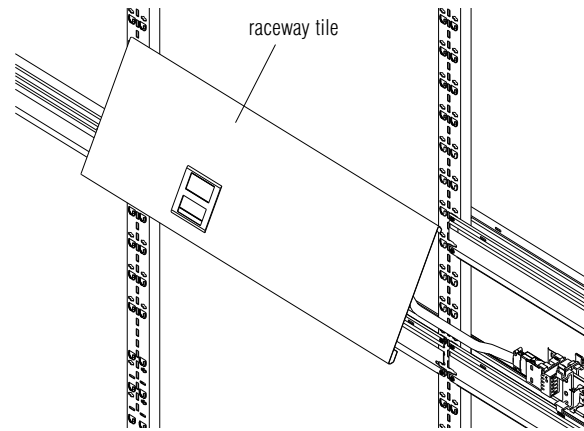

Figure 70
2. With the tile hooks already in place on the frame (See **Installing Tile Hooks on page 13**) and the wire trough installed (see **page 40**), hang the raceway tile on the top two hooks. **Figure 70.**